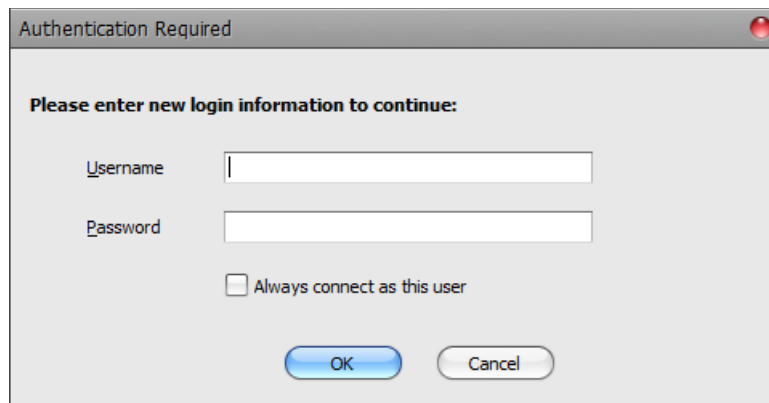

Figure 2-3: Authentication Required window
2. When the **Authentication Required** window opens, enter a **Username** and **Password** in the appropriate fields (Figure 2-3).